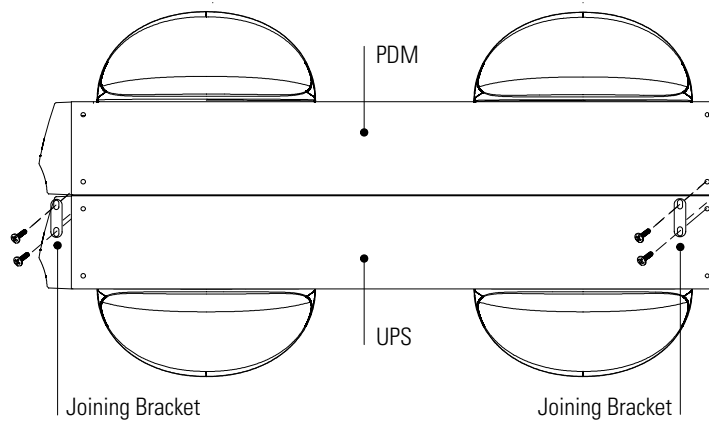

Figure 7. Installing the Joining Brackets (Top View with Pedestals)
6. Align each joining bracket with the adjacent corner screw holes and secure with the supplied screws (see Figure 7).